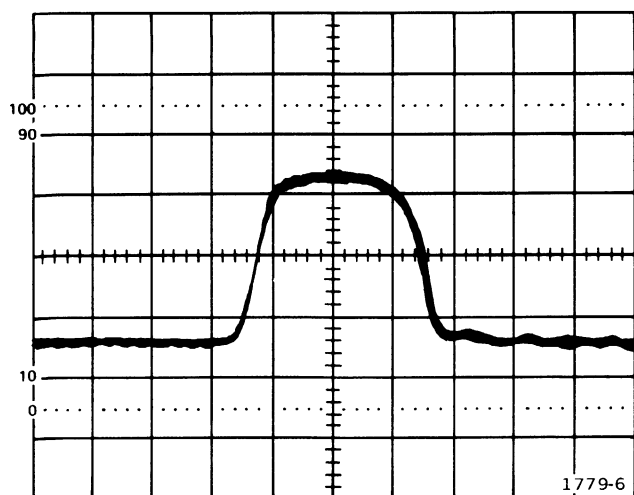

Fig. 5-3. Typical display on test oscilloscope when High-Speed Timing is properly adjusted. (475 set at 2 nanoseconds/division).
f. CHECK—Test oscilloscope display for a symmetrical, flat-top current waveform similar to that in Fig. 5-3.